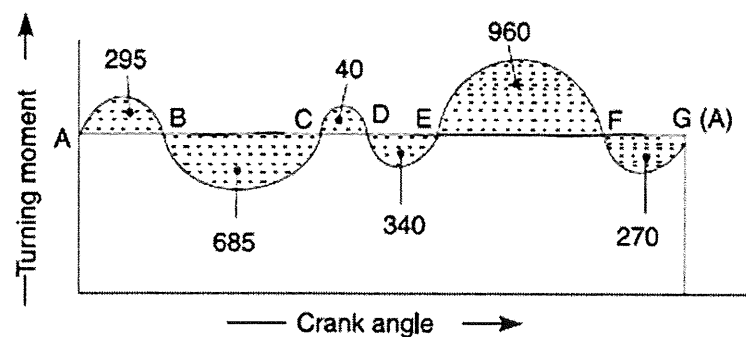

Figure 5
- c) The turning moment diagram for a petrol engine is drawn to the following scales: Turning moment, 1 mm = 5 Nm; crank angle, 1 mm =  $3^\circ$  horizontally shown in Figure 5. The turning moment diagram repeats itself at every half revolution of the engine and the areas above and below the mean turning moment line taken in order are 295 mm2, 685 mm2, 40 mm2, 340 mm2, 960 mm2, 270 mm2 when the engine is running at a speed of 600 rev/min. If the total fluctuation of speed is not to exceed  $\pm 1.5\%$  of the mean, **determine** the necessary mass of the flywheel of radius 0.5 m.